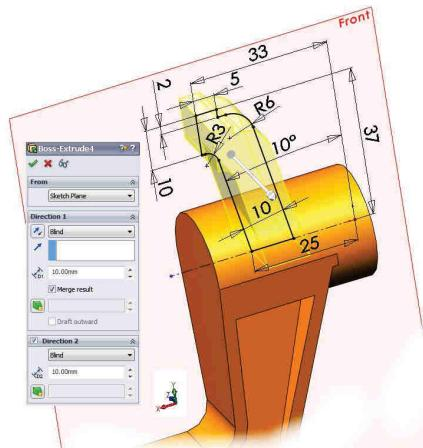

Fig. 2.9
**13 Trasare schiță 33x37:** Comanda Sketch – Fig. 2.9 – plan Front.
**14 Extrudare contur 33x37:** comanda Extruded Boss/Base – Fig. 2.9 - Blind / 10 mm distanță / Activare Direction 2 / Blind / 10 mm distanță / .
**13 Sketching of the 33x37 contour:** The Sketch command – Fig. 2.9 – Front plane.
**14 Extrudation of the 33x37 contour:** the Extruded Boss/Base command - Fig. 2.9 - Blind / 10 mm distance / Activate Direction 2 / Blind / 10 mm distance / .